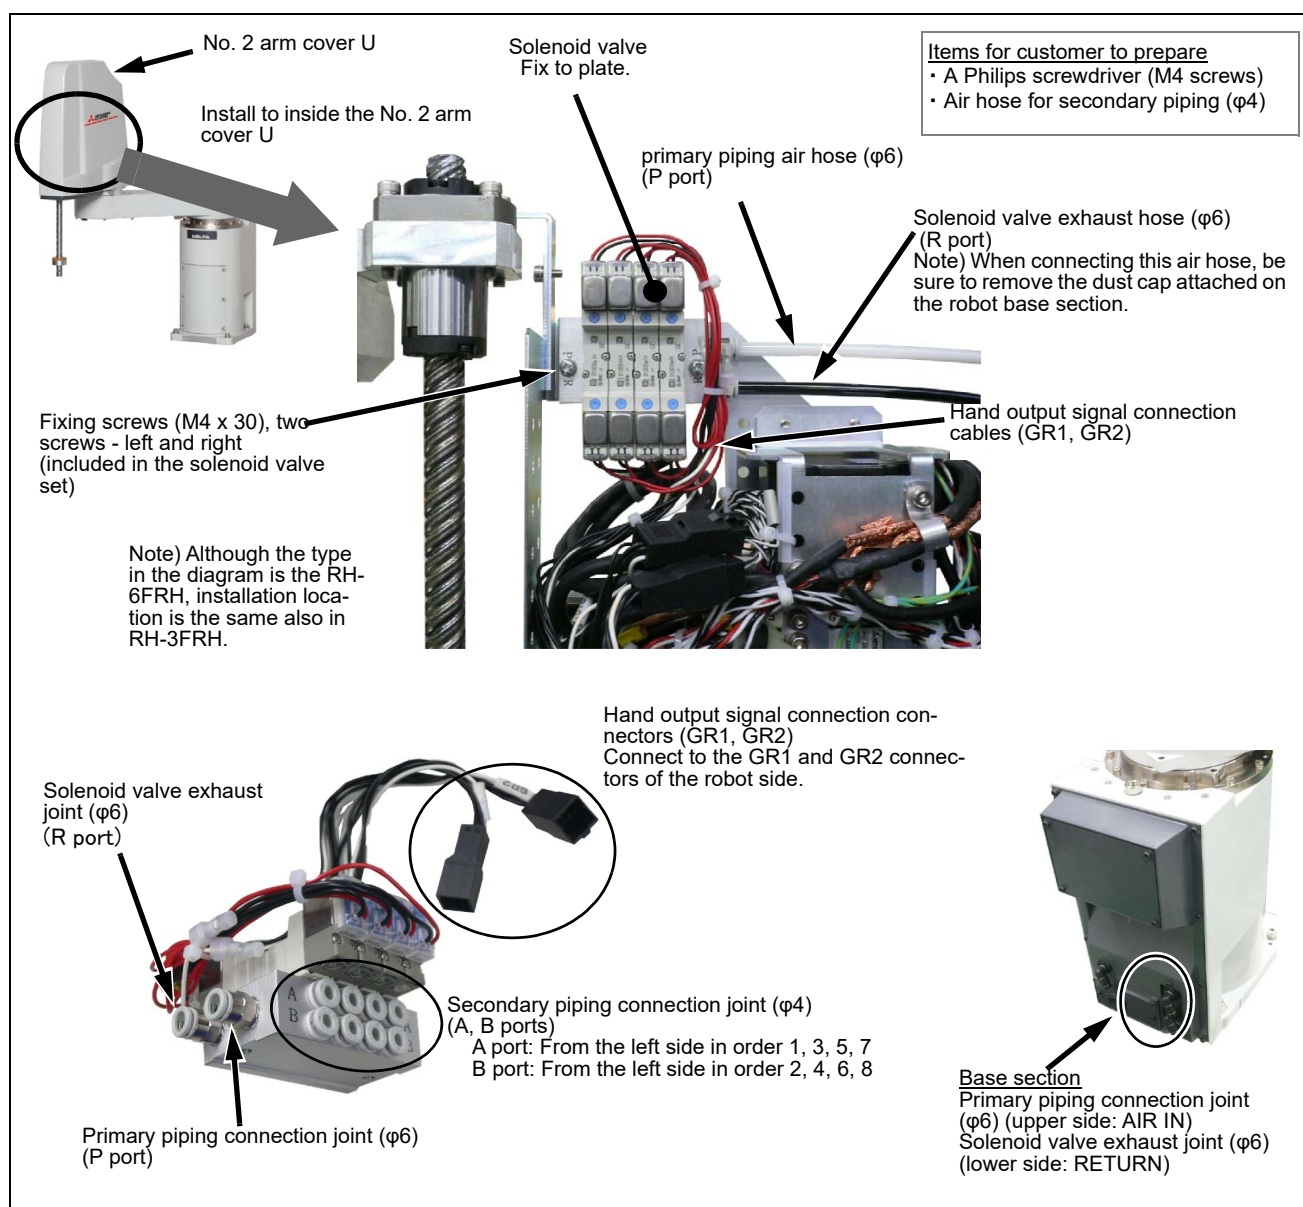

Fig.3-1 : Solenoid valve installation procedures (RH-3FRH/6FRH)
- 2) Fix the solenoid valve to the plate in the position indicated in Fig. 3-1. Place it so that the solenoid valve's primary piping connection joints (P, R ports) are located on the right hand side, and fix it securely using the M4 screws included (tightening torque: 1.39 to 1.89 N · m).